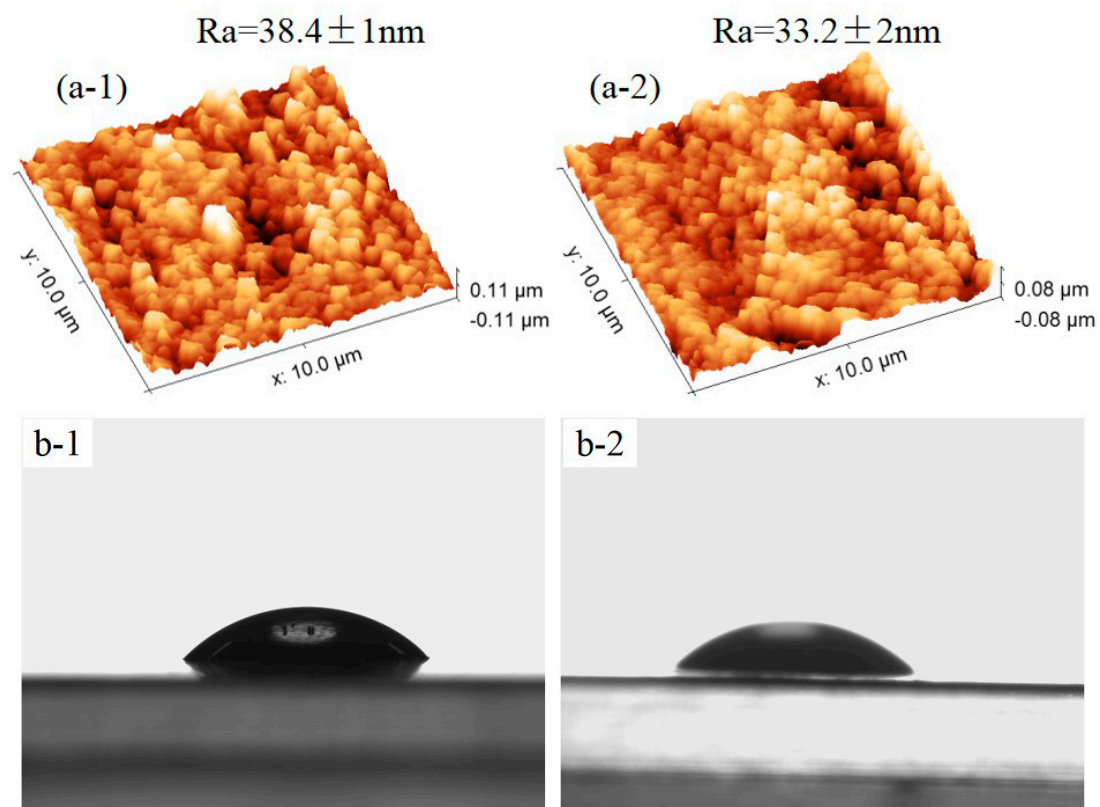

Figure S2 AFM micrographs (a) and contact angle micrographs (b) of the pristine (1) and modified (2) active layer of TFC-FO membranes.
| Page 6 | Figure S2 AFM micrographs (a) and contact angle micrographs (b) of the pristine (1) and modified (2) active layer of TFC-FO membranes. |